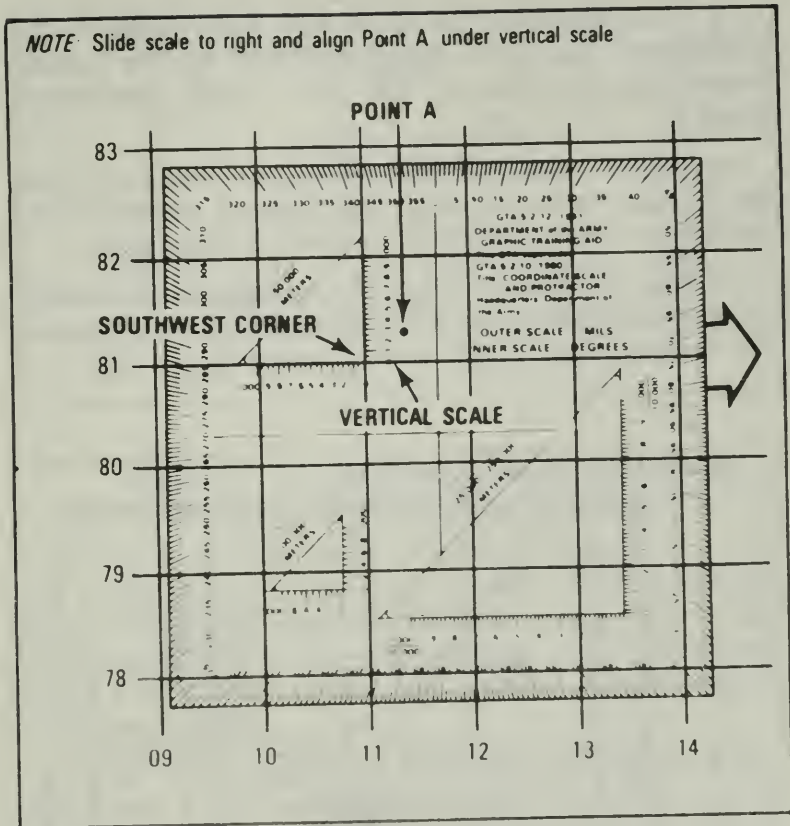

Figure 30. Placement of the coordinate scale.
a. First, locate the grid square in which the point (for example, Point A, Figure 30) is located (the point should already be plotted on the map).
e. Check to see that the zeros of the coordinate scale are in the lower left-hand (south-west) corner of the grid square where Point A is located in (Figure 30).